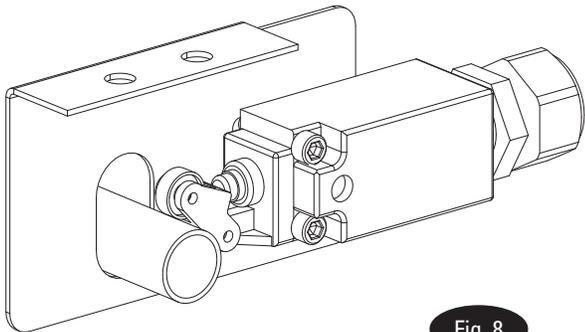

Fig. 8
For three phase lifts with drum switch: Remove Limit Switch cover, Fig. 8. Insert Actuator end of Switch Bar into slot located inside Limit Switch, Fig. 8. A small amount of silicone sealant on the lower part of the actuator will help hold it in place. Insert 1/4"-20NC x 2-3/4" HHCS through pivot hole in end of Switch Bar. NOTE which hole to use, Fig. 11. Then secure HHCS and Switch Bar to overhead as shown, using (2) 3/4" (19mm) spacers and 1/4"-20NC Locknut. Tighten Hex bolt leaving 1/16" (1.6mm) gap between the spacer and the overhead assembly, Fig. 11. Replace limit switch cover.